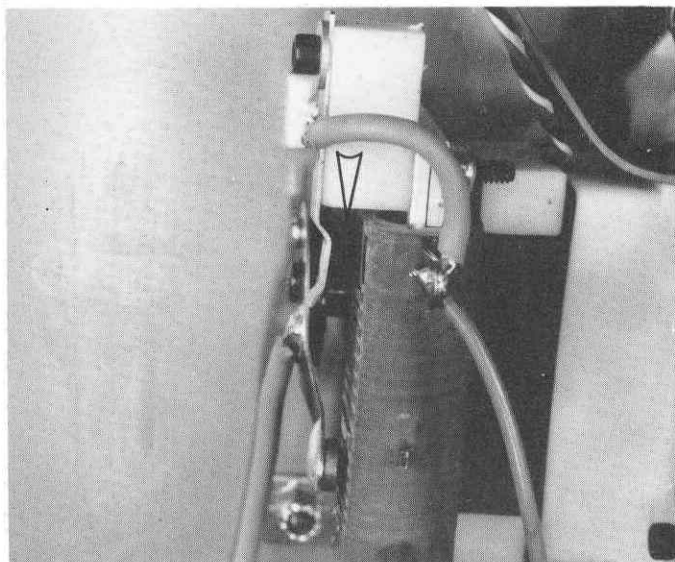

Fig. 178
□ **Fig. 178** The arrow is pointing to the space between the bypass button and the resistor band. This distance should be about .025 (.65mm) less than the thickness of the wiper button section, so that when the wiper arm button moves to full throttle it makes the bypass arm move about .025 (.65mm) forward. This bypass arm then helps to increase the pressure on the throttle wiper arm button, thereby giving it an excellent electrical connection. This, of course, allows the motor to achieve full horsepower and helps the resistor to last longer.